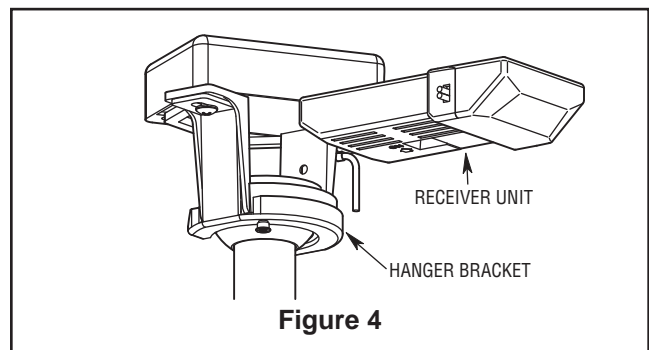

Figure 4
4. Route wires through motor coupling cover, canopy screw cover and canopy (Figure 4).
3. Slide the receiver unit into the open end of the hanger bracket (Figure 4).